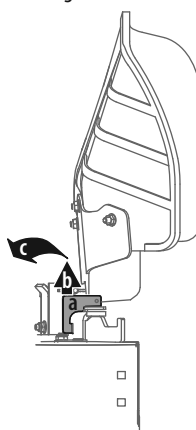

Figure 11
1. The chute is shipped attached and with a stop bracket holding the chute upright. The stop bracket must be removed prior to operating the tractor. See Figure 11.